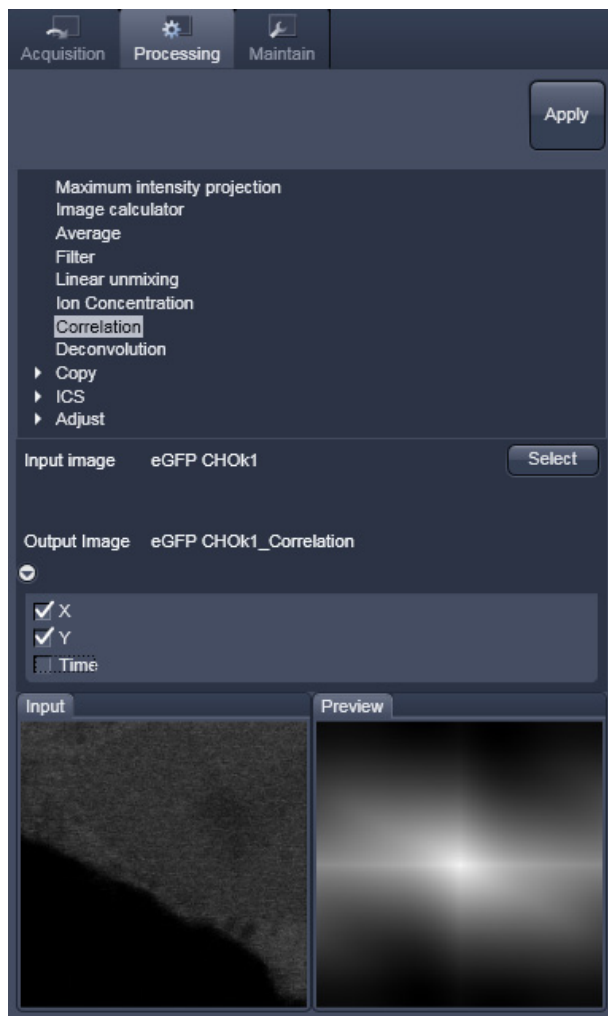

Fig. 5-78 Correlation window
- Activate **Correlation** in the **Processing** tool. The **Correlation** menu will appear (Fig. 5-78).